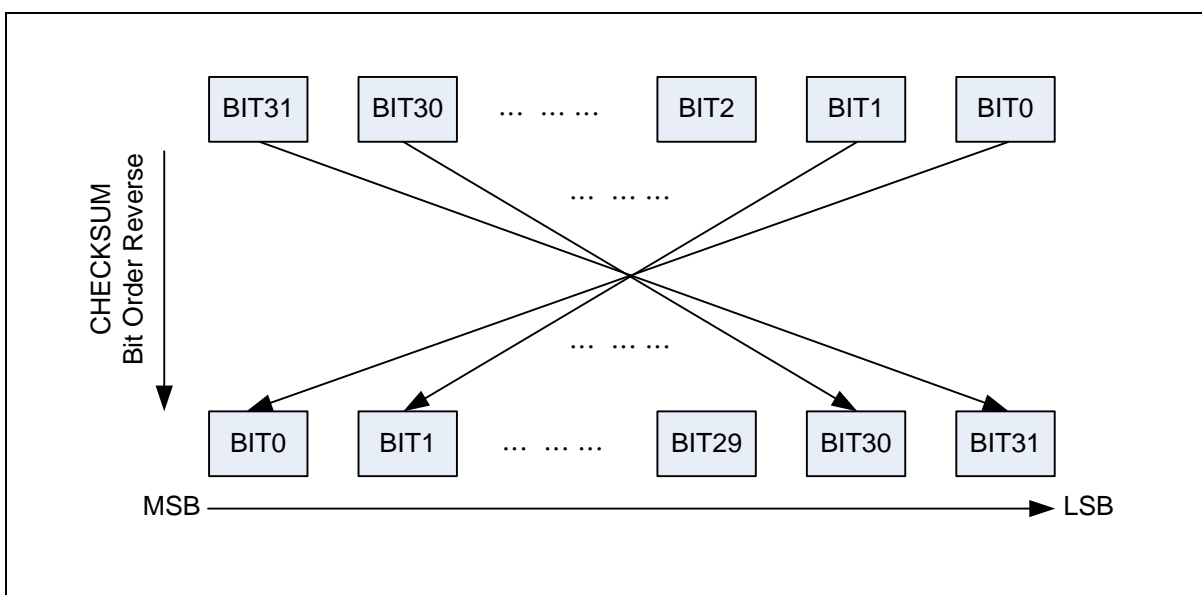

Figure 6.7-2 CHECKSUM Bit Order Reverse Functional Block
- Configure bit order reverse for CRC checksum by setting CHKSREV (CRC\_CTL[25]). The functional block is also shown in Figure 6.7-2.